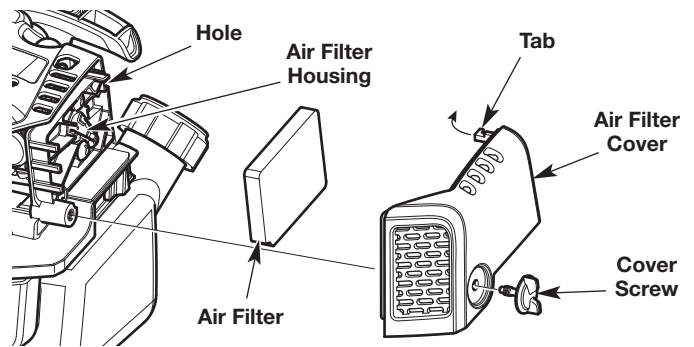

Fig. 32
1. Unscrew the cover screw completely. Swing the air filter cover to the right. Remove the air filter cover from the air filter housing (Fig. 32).
2. Remove the air filter from the air filter housing (Fig. 32).
6. Reinstall the air filter in the air filter housing (Fig. 32).
7. Insert the tab on the air filter cover into the hole on the air filter housing. Swing the air filter cover to the left. Push the air filter cover back onto the air filter housing. Insert the cover screw into the air filter cover. Tighten the cover screw to secure the air filter cover (Fig. 32).